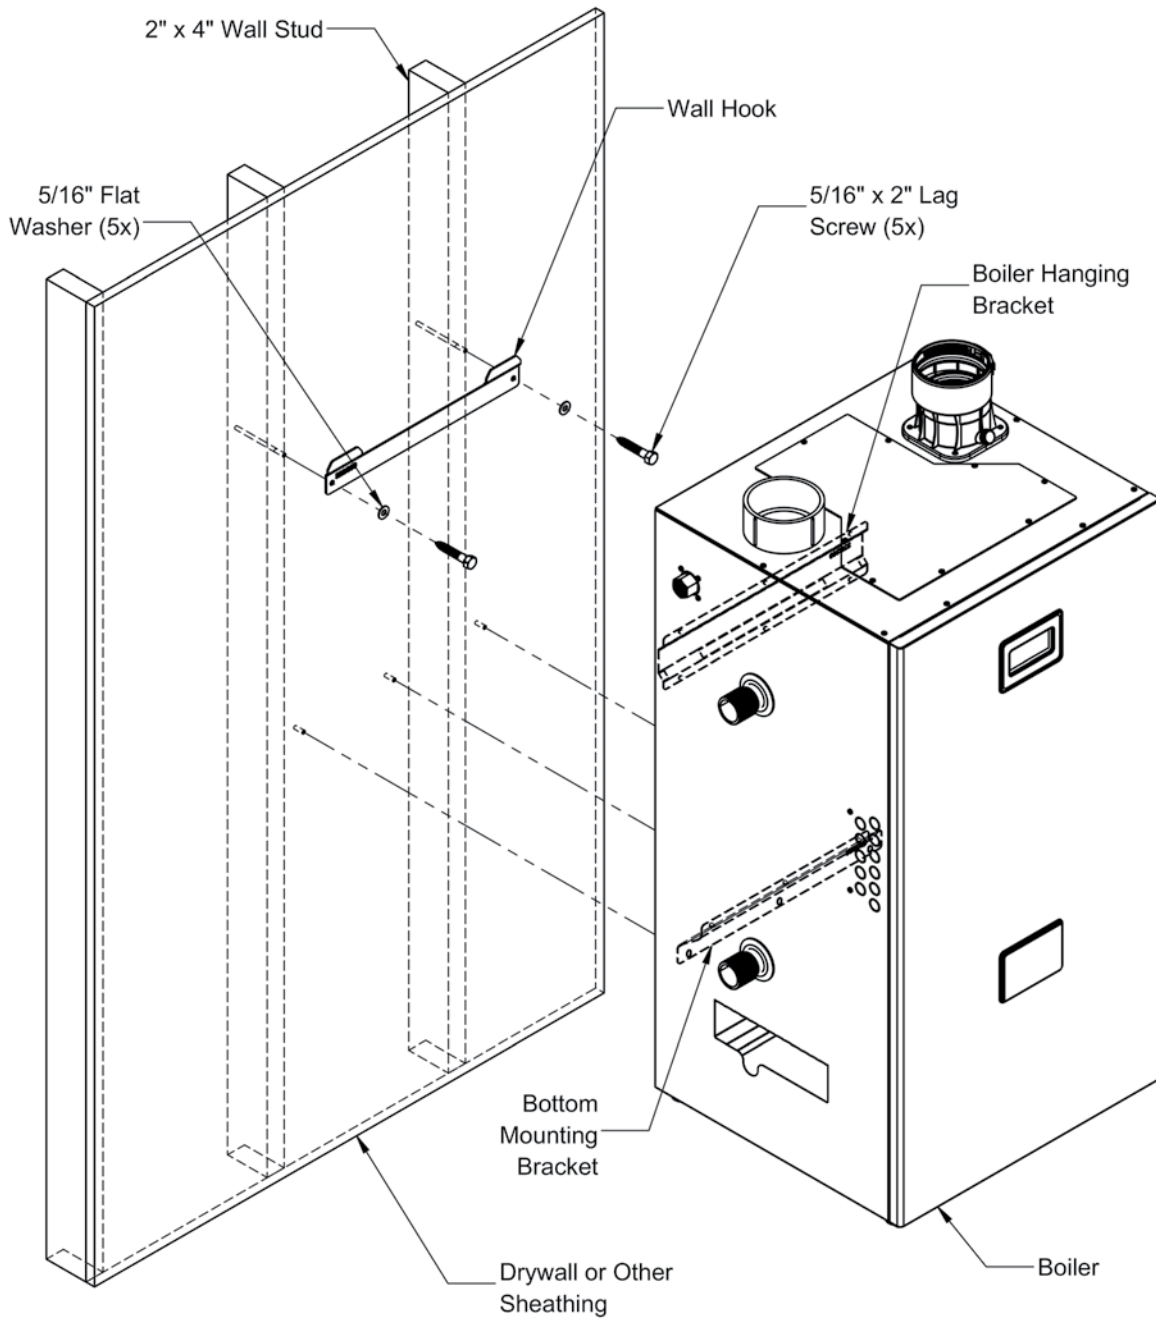

Figure 5.2 Boiler Mounting Bracket Installation / Boiler Wall Mounting
6. The wall mounting hook is used to secure the boiler to the shipping pallet. Remove this hook from the pallet and secure to the wall using the $\frac{5}{16}$ " x 2" lag screws and washers, or other suitable anchors as appropriate (Figure 5.2). Make sure the hook is level.
7. Hang the boiler on the wall hook as shown in Figure 5.2.
8. If not already done in Step (5) locate and drill holes "C" and "D" using the obround slots in the bottom mounting flange. Secure the bottom flange to the wall using the $\frac{5}{16}$ "x 2" lag screws, or other fasteners as appropriate (Figure 5.2).